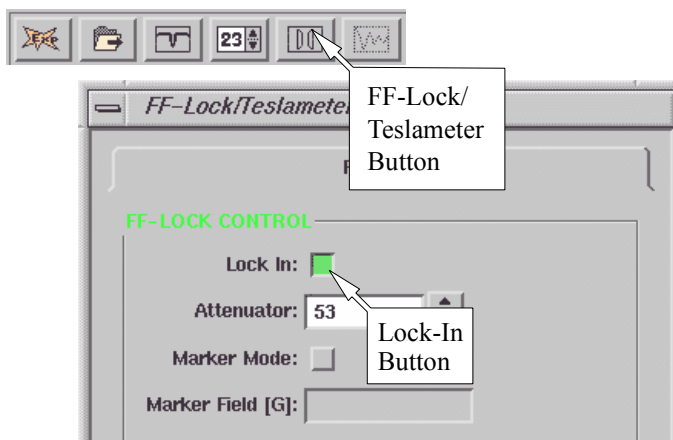

Figure 12-14 The FF-Lock dialog box.
4. **Open the FF-Lock/Teslameter dialog box.** Click the FF-Lock/Teslameter button and open the dialog box. (See Figure 12-14.)